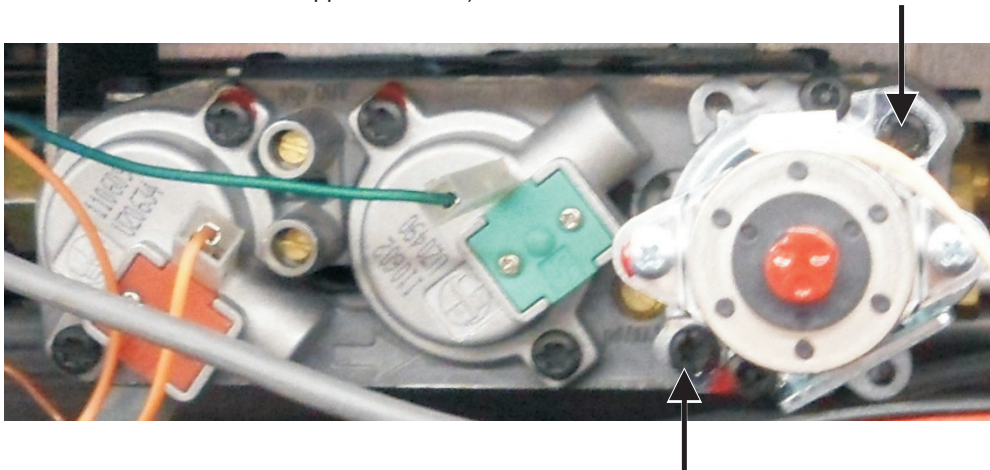

Figure 2
6. Install the stepper motor to the valve with the two 1/2 inch screws provided with the kit. **See Figure 2.**